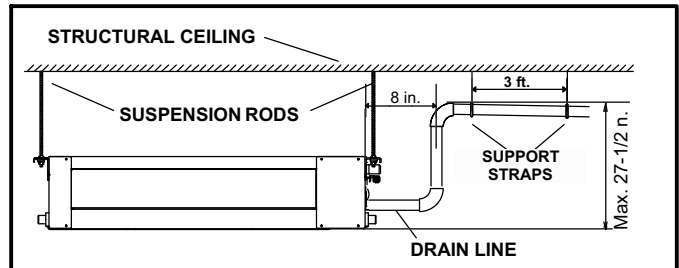

Figure 11. Condensate Drain with Pump — Single Unit
- 4 - See figure 11 for applications including a single unit using the internal drain pump.